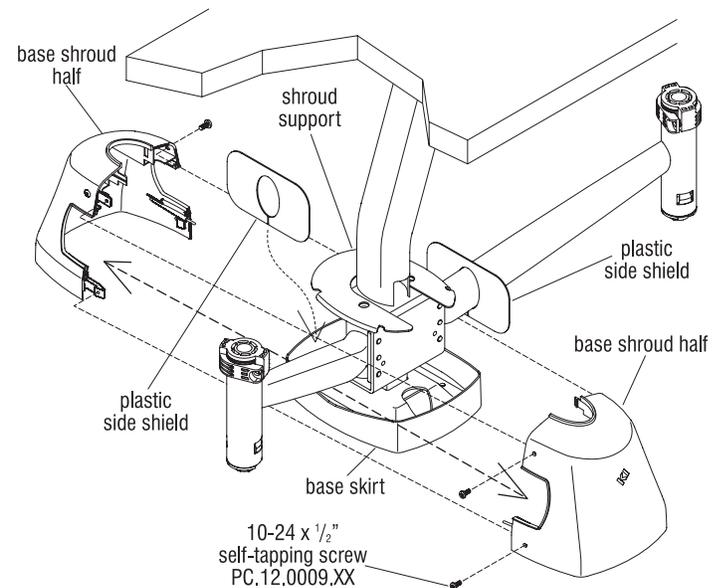

Figure 24
62. Begin assembly by placing a plastic side shield over each of the swing arms as illustrated, with the **seam oriented down and the shiny side facing inward** (Figure 24).
63. To assemble the shrouds over the base, first align the front shroud with both plastic swing-arm side shields in place over the shroud support. Align the back shroud in the same manner, and with firm pressure, snap the parts together. Press on the bottom sides to finish the lower snap fasteners. Finally, locate the two open mounting holes on each side of the joined shroud halves and secure together with color-matched #10-24 x 1/2" self-tapping screws as illustrated. Torque screws to 20 in/lb (Figure 24).